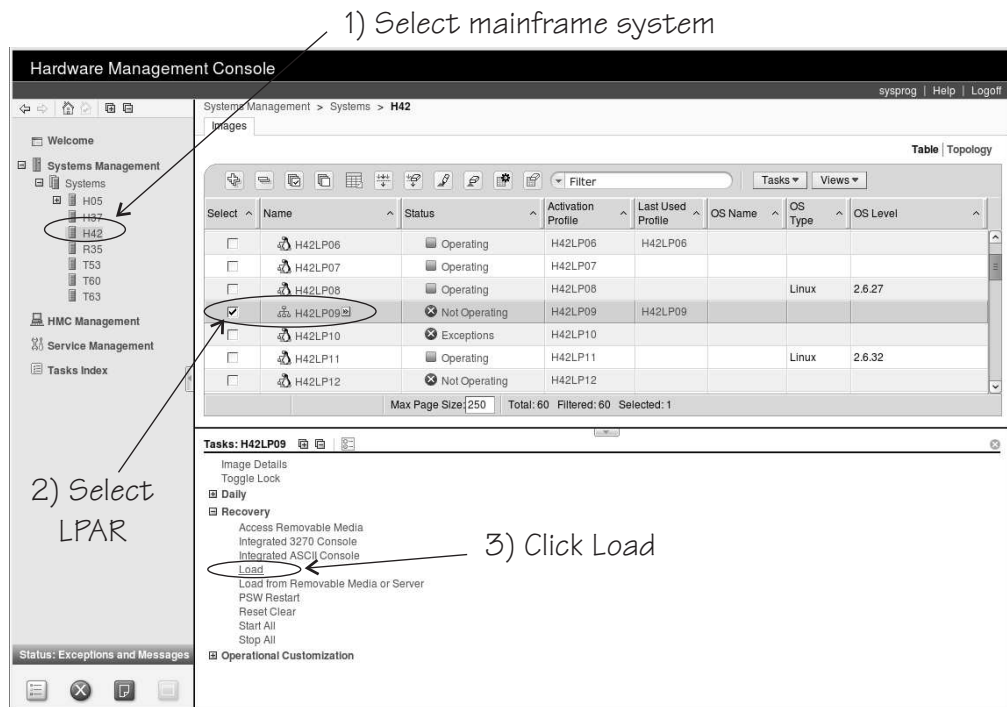

Figure 28. Load task on the HMC
3. In the **Tasks** area, expand **Recovery** and click **Load** as shown in Figure 28 on page 104.